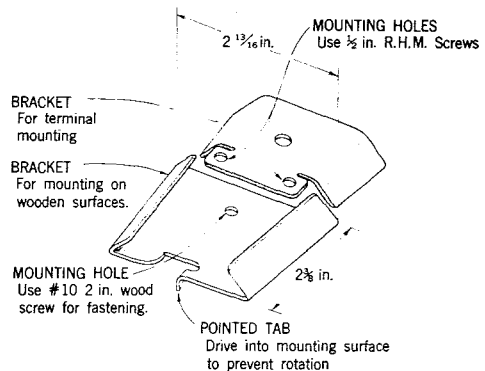

Fig. 9—68A Bracket
4.06 The 68A bracket consists of two trapezoid-shaped metallic brackets so constructed that one slides into the other. The bracket with the pointed tab is mounted on a pole or other wooden surface. The superseded 101B wire terminal is fastened to the other bracket with the hardware provided. The bracket with the wire terminal attached is slipped into the grooves of the bracket attached to the pole as indicated in Fig. 9. The 68A bracket, when used with a 101B wire terminal, will permit relocating the terminal without interrupting service.